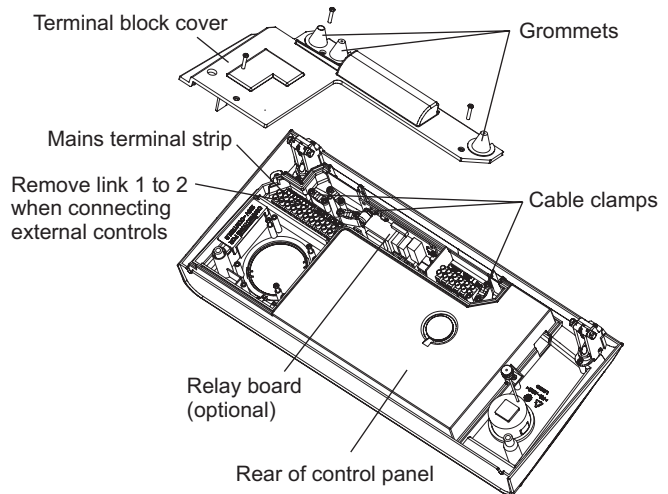

Fig. 23
4.10 CONNECT THE MAINS SUPPLY - Fig. 23
Remove the three screws securing the terminal block cover from the back of the control box (see Fig. 23). Pass the mains supply cable through the cable clamp and connect as follows:- Brown to L, Blue to N and Green/Yellow to $\perp$. Ensure correct polarity.